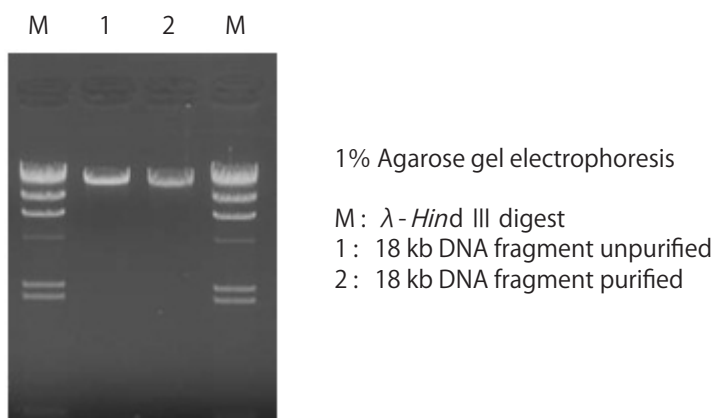

Fig. 2 Agarose gel electrophoresis of DNA fragment
2. Amplify 18 kb DNA fragment by PCR reaction and purify the DNA fragment by this kit. The result of agarose gel electrophoresis shows in Fig. 2. The recovery of DNA fragment is up to 70%.